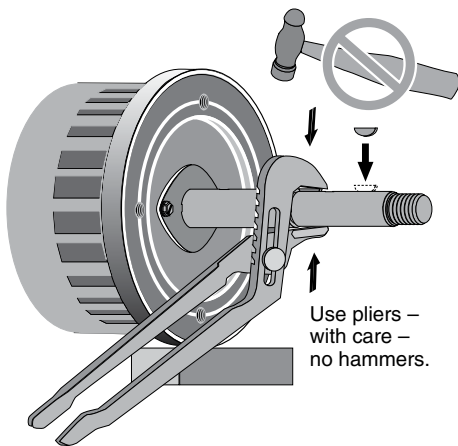

Figure 21
- Step 3. Make sure that the shaft keys are in place on the shaft. If they are not, squeeze them in place now with slip joint pliers. *Do not tap them or hit them with a hammer; you could bend the shaft* (see Figure 21). When the keys are correctly installed, the adapter will pass over the keys without interference.